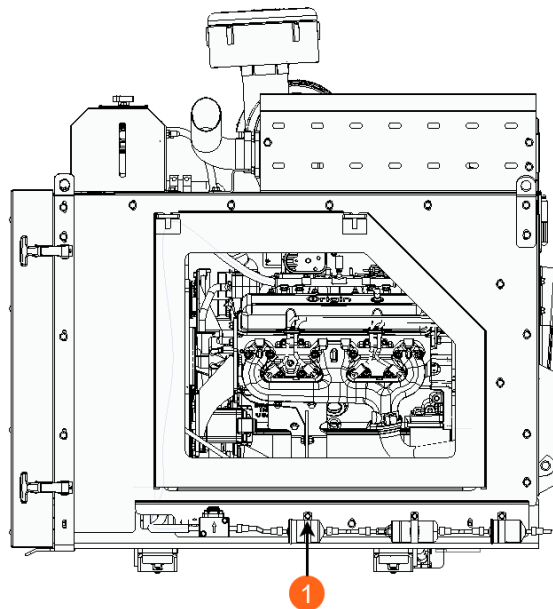

Figure 4
- 6) Remove bolt holding the fuel filter between the fuel pump and block manifold to the frame. See Figure 4.